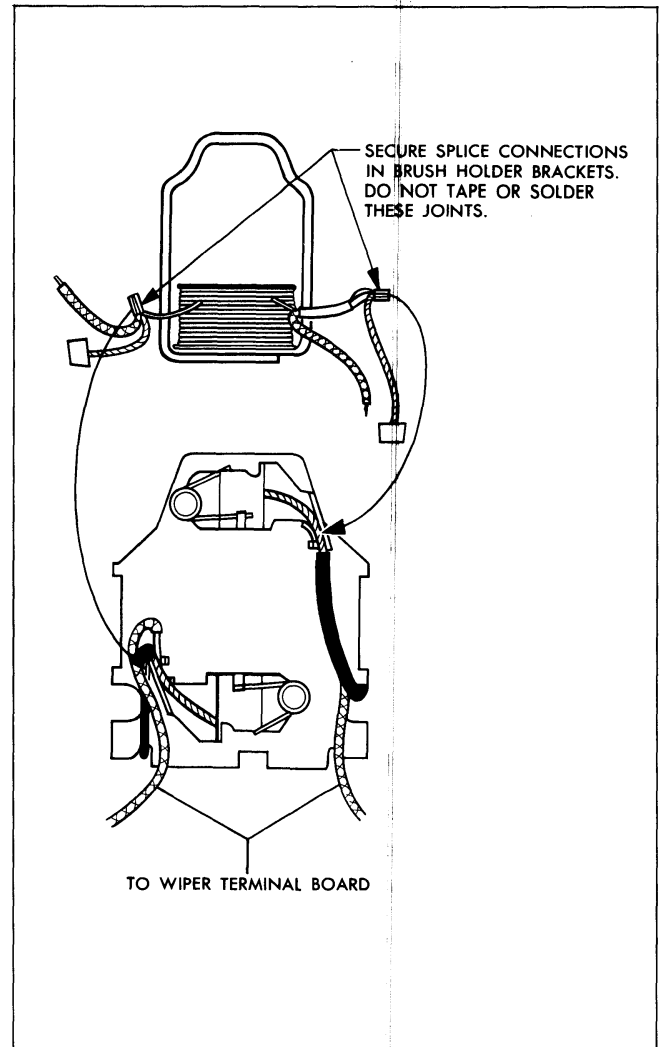

Fig. 11-80 Motor Splice Connections
2. Disassemble motor section and check all splice connections (Fig. 11-80).
- d. Brush pigtail connections at splice joints (Fig. 11-80).